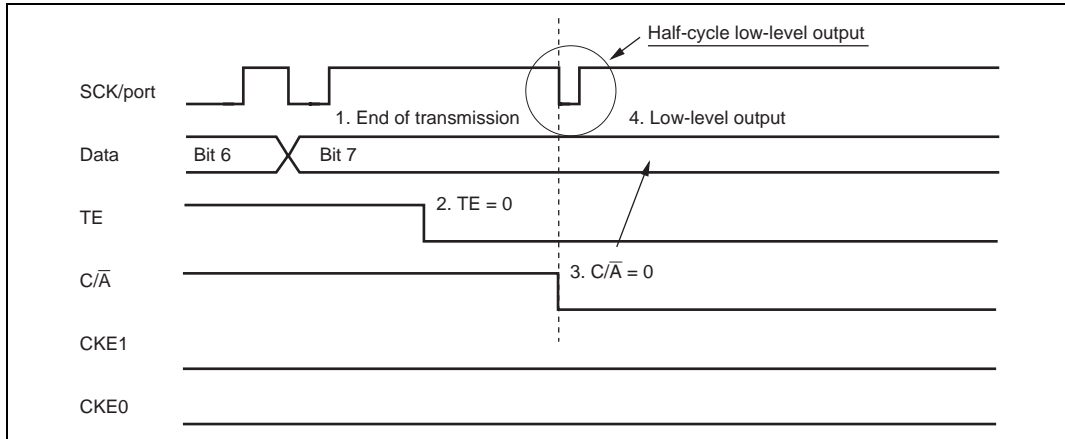

Figure 13.41 Operation when Switching from SCK Pin Function to Port Pin Function
4. Occurrence of low-level output (see figure 13.41)